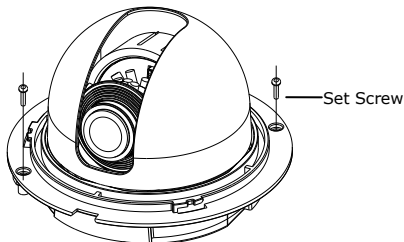

Figure 2-7 Disassembling
3. Loosen the two screws as shown in Figure 2-7.